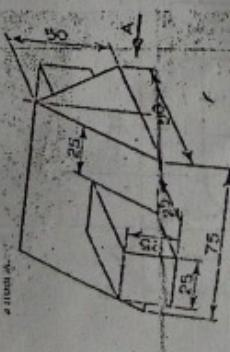

Figure 1
b. Using first angle orthographic projection, draw the front elevation, plan, left hand side view, and right hand side view of the object in Figure 1, viewed from direction A.